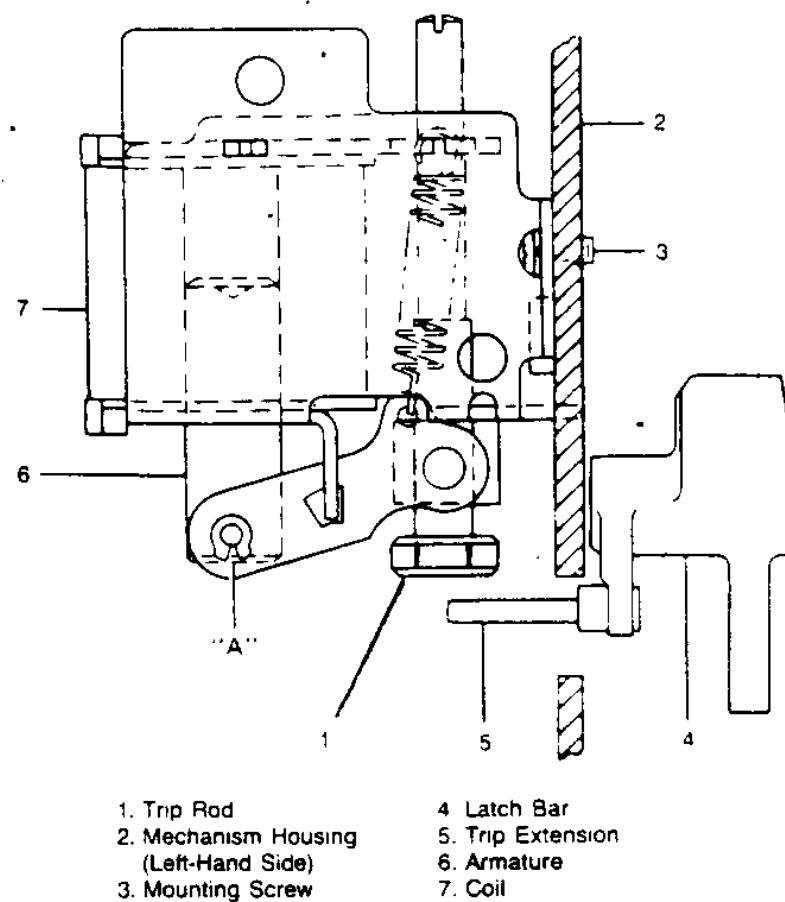

Fig. 8 — Shunt Trip Device Adjustment
2. Turn trip rod (1, Fig. 8) up until a .105 gauge fits between head of trip rod (1) and trip extension (5).